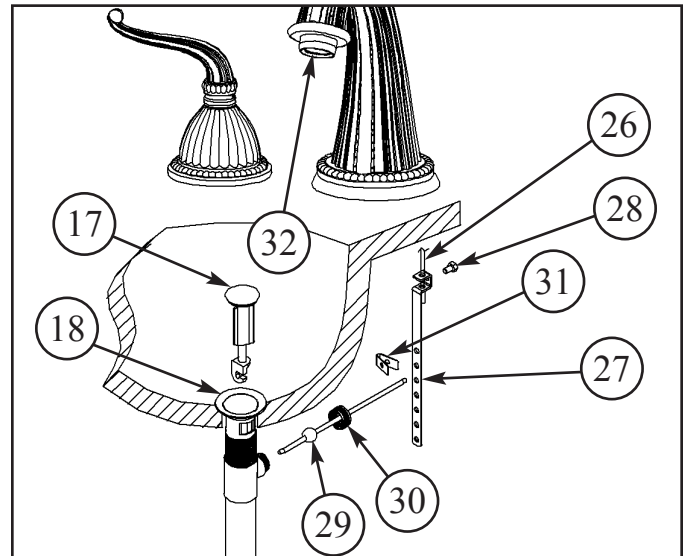

Figure 6
8. Place drain PLUG (17) into FLANGE (18). Insert pop-up ROD (26) through spout and secure to STRAP (27), approximately 1" from end of ROD (26), with SCREW (28). Insert ball ROD (29) into the drain's rod opening, secure with ball rod NUT (30). Adjust the rise of the plunger and CLIP (31) into place. Adjust ball ROD (29) and pop-up ROD (26) so drain will open and close properly. See Figure 6.
9. Remove AERATOR (32) from spout, turn on water supply, and flush both valves until water is clear. Check for leaks and make any final adjustments required. Re-attach AERATOR (32) to the spout.